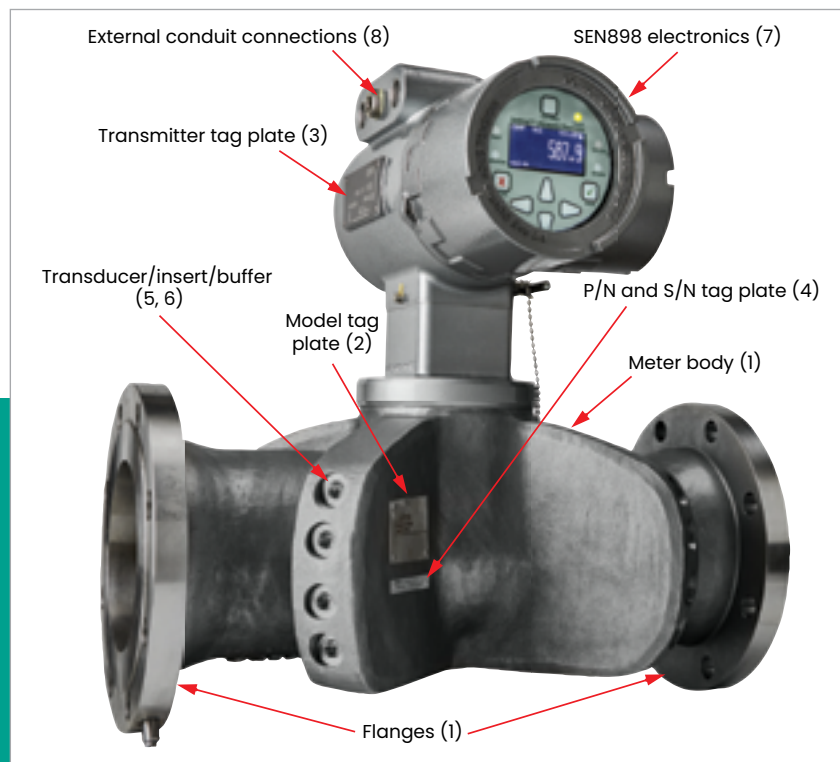

Figure 1: Typical *Sentinel LCT8* assembly
Figure 1 on page 3 shows a **Sentinel LCT8** system, with items 1–8 as described in *Table 1* below.